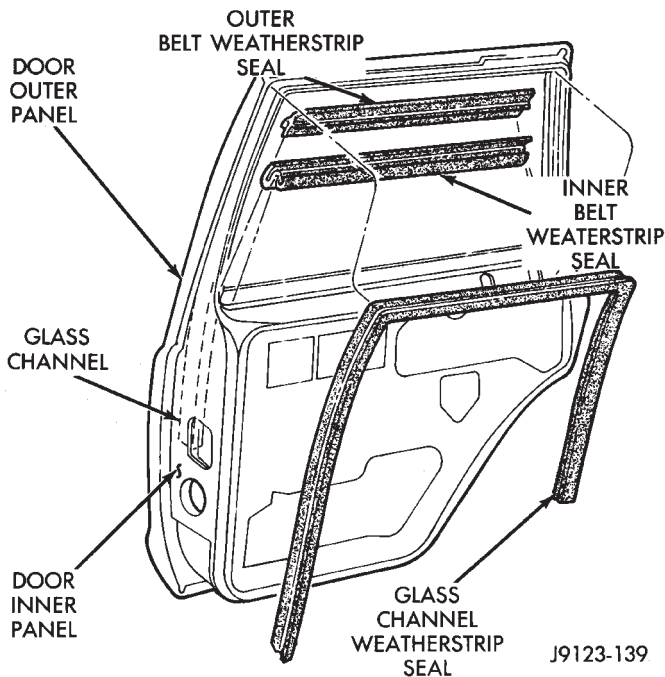

Fig. 60 Rear Door Window Weatherstrip Seals
- (1) Lower the window glass.
- (2) Pry the window beltline moulding from the clips and remove the moulding from the door.
- (3) Remove the window weatherstrip seals from the door (Fig. 60).
- (4) Remove the trim panel and waterdam from the door inner panel.
- (5) Remove the channel/division bar screws and drill-out the rivet head to remove.
- (6) Tilt the channel/division bar forward and remove it from the door.